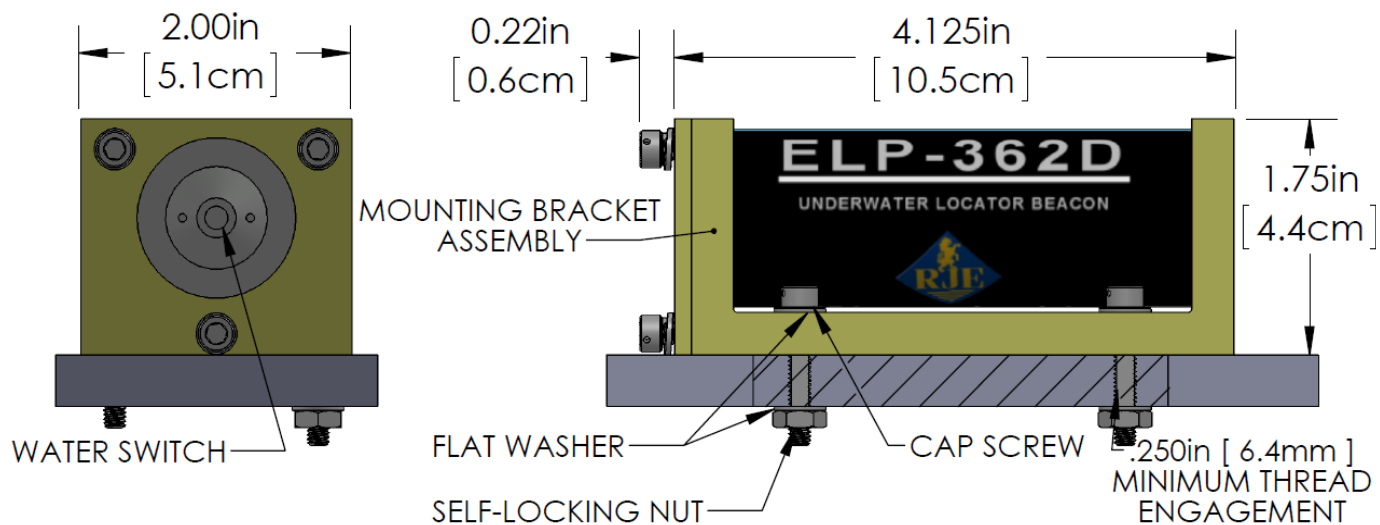

Figure 3-2 Securing the Mounting Bracket
Figure 3-2 Securing the Mounting Bracket	9
2. Secure the mounting bracket with four 10-32 stainless steel screws and associated hardware (not supplied) as shown in Figure 3-2.